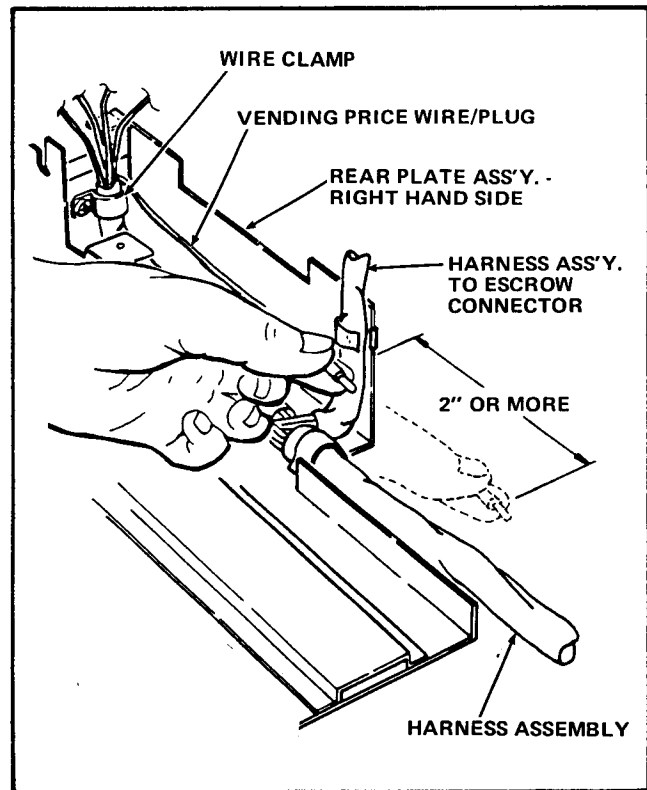

FIGURE 6
- 2. Grasp the Wire behind the Plug between your fingers and gently pull the Wire straight toward the bottom of the Rear Plate Assembly as shown solid in Figure 6. Proceed as follows:
- a. If the length of the Wire is such that the Plug extends approximately even with the bottom edge of the right hand sidewall of the Rear Plate Assembly, as shown solid in Figure 6, skip step J-2-b, below, and proceed to step K.
- b. If the length of the Wire is such that the Plug extends 2 inches or more past the bottom edge of the right hand sidewall of the Rear Plate Assembly, shown dashed in Figure 6, skip step K and proceed directly to step L.